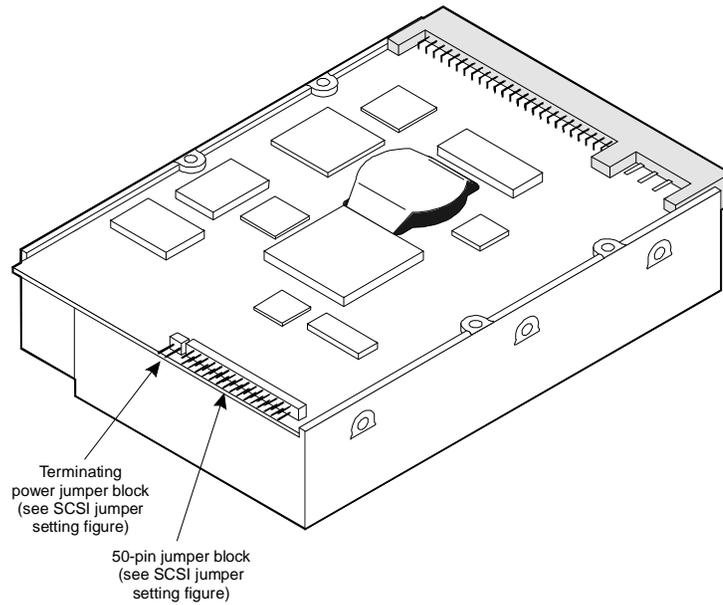
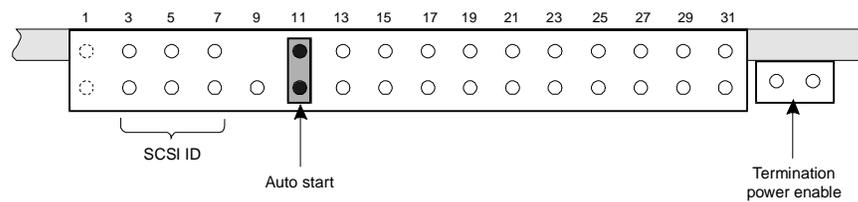

Figure A-16. Jumper Locations on the 2-Gbyte SCSI Hard Disk Drive (Comcode 407340942): Type A
Figure A-17. Type A: Jumper Settings for the First 2-Gbyte Disk Installed; Bay 1, SCSI ID = 0
- n Figure A-16 shows the location of the jumpers on the 2 Gbyte Type A SCSI hard disk drive (Comcode 407340942). Figure A-17 through Figure A-22 show the jumper settings.